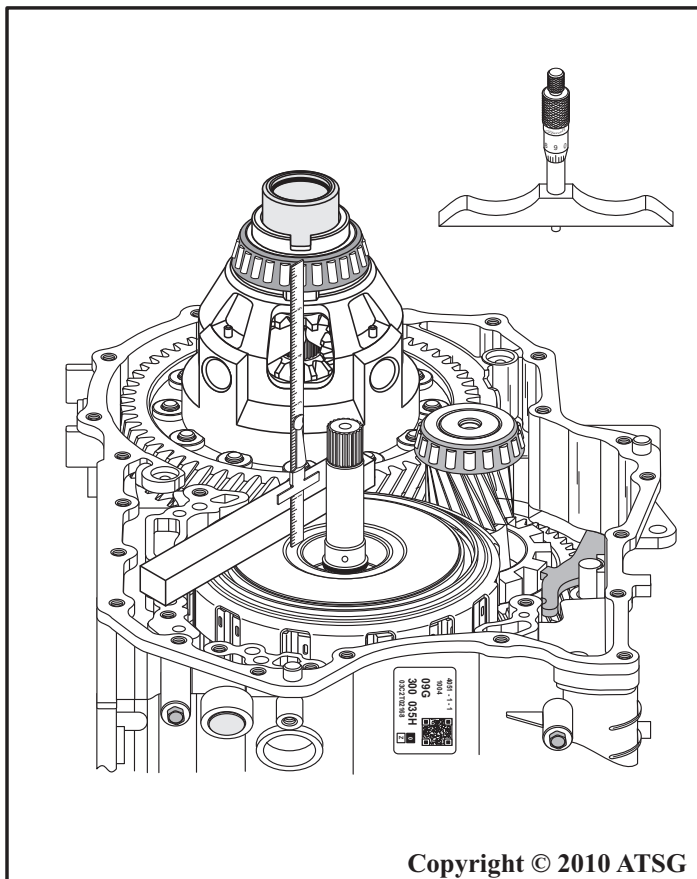

Figure 182
41. Measure the distance from case pump surface to the washer surface on the K3 clutch housing, as shown in Figure 182, using a straight edge and ruler, or a depth micrometer.